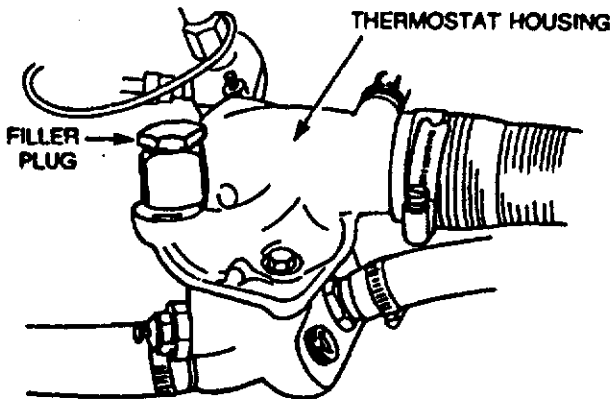

Figure 3-1 Thermostat Housing
- b. Remove the brass filler plug from the thermostat housing (see Fig. 3-1).